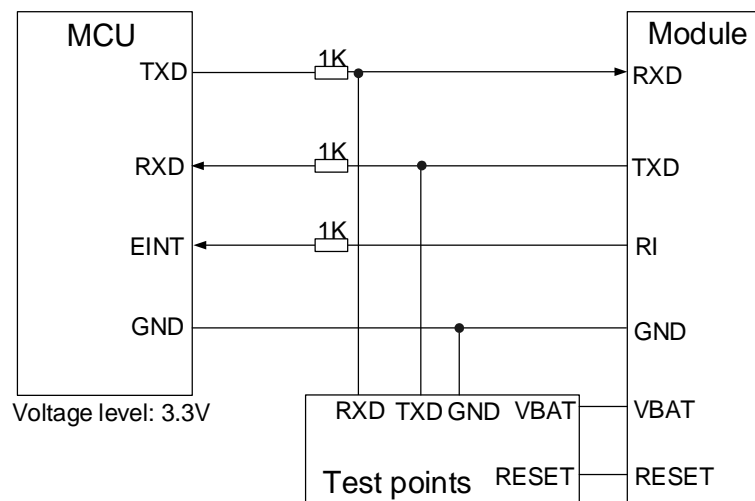

Figure 2: Recommended UART Reference Design for BC95
- **BC95**: please refer to **Figure 2** for the recommended reference design of RXD.